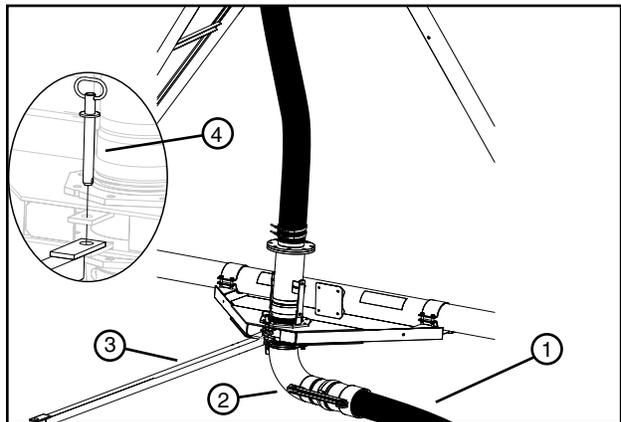

Figure 64-3 1. Hose 2. Elbow Inlet (Tee Inlet Not Shown) 3. Tongue 4. Torque Pin
- Disconnect the hose from the inlet tube at the elbow. See Figure 64-3.
- Attach the tongue to the hose pull frame with torque pin. See Figure 64-3.